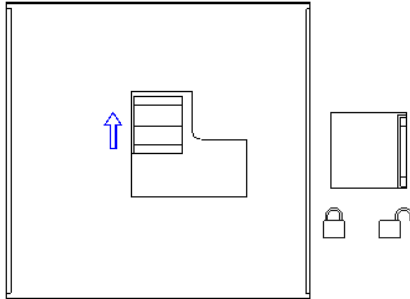

Fig.10.2
3. Set the maintenance breaker to the ON position (Fig.10.2) .